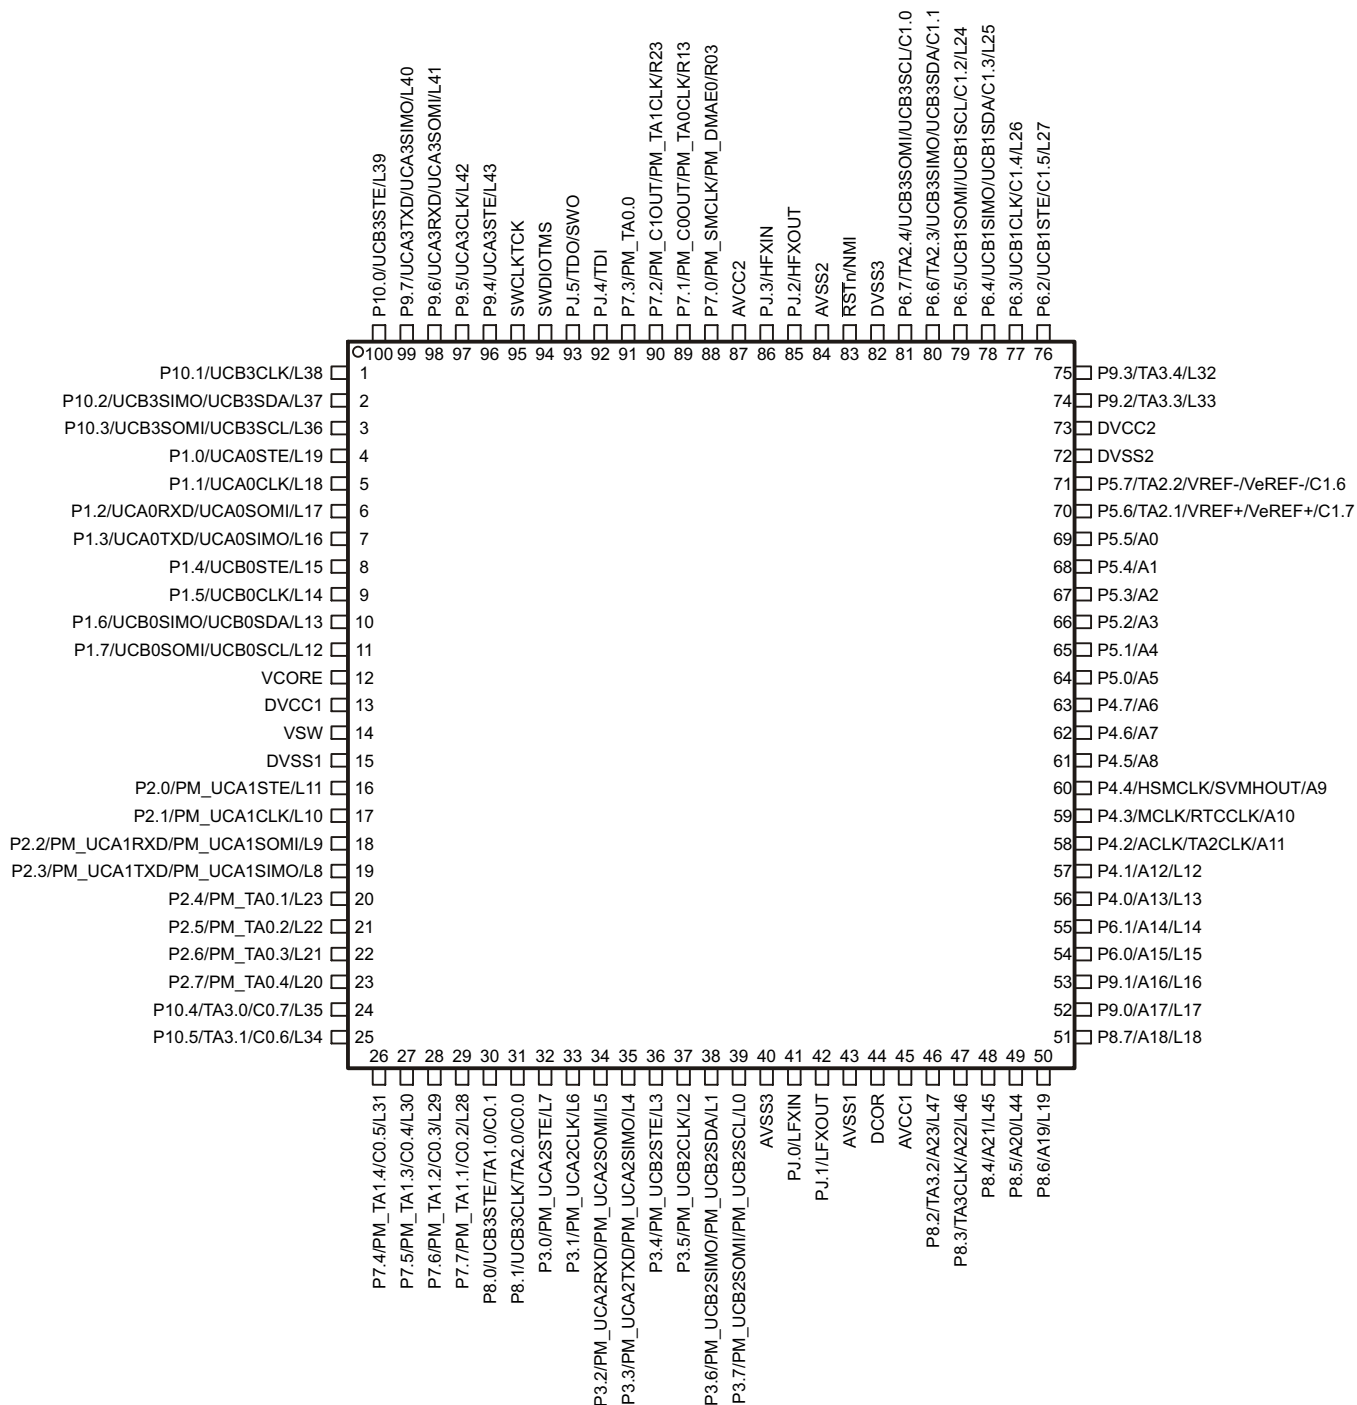

Figure 4. MSP432P4111IPZ Pinout
- 100-pin LQFP (PZ) package (see Figure 4)